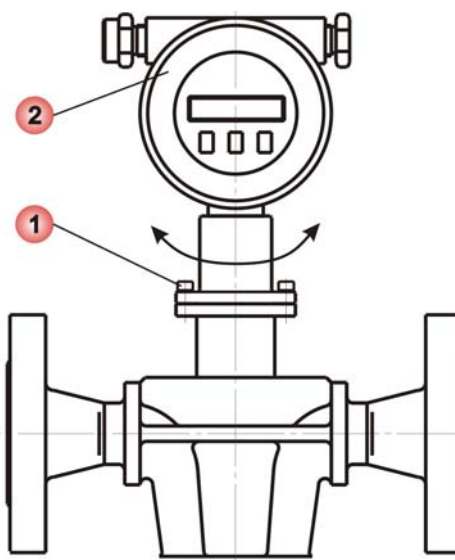

Figure 2.10 – Rotation of the transmitter
If in the process of installation the front side of the transmitter appeared to be not in front of the user and display is not visible, it is possible to rotate the transmitter at an angle of 90° or 180°, so that the display is facing the user. To do this, unscrew the four bolts (1) (see Figure 2.10). Then turn the transmitter (2) by 90° or 180° in the desired direction and tighten those 4 bolts to ensure sealing.